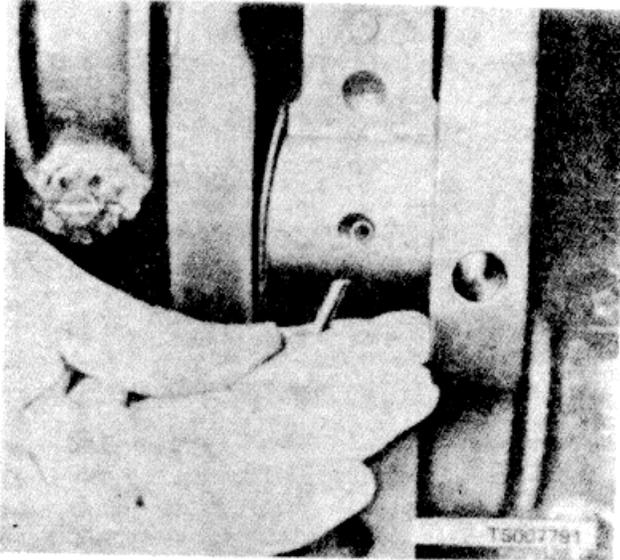

Figure 9-27. Removing Upper Bearing Shell with Angular Pin.
Upper main bearing shells can be removed without removing the crankshaft. To remove the upper shell, remove the main bearing cap at the defective bearing and remove the lower bearing shell. Insert a pin with an angular head in the oil hole of the crankshaft as shown in figure 9-27. Rotate the crankshaft and roll the bearing shell from the cylinder block.
(1) Remove the bearing cap; remove the bearing from the cap.
(2) Install a pin with an angular head in the oil hole in the crankshaft bearing journal (fig. 9-27).
(3) Rotate the crankshaft by hand. The pin will force the top bearing half out of its seat.
(4) Position the replacement bearing on the crankshaft bearing journal. Rotate the crankshaft by hand. The pin will force the bearing half into position.
(5) Install the replacement bearing half in the cap. Install the cap.